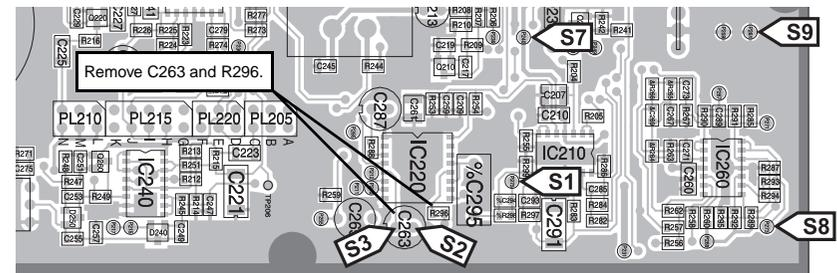

Figure 2 T800 Transmitter Audio Processor - Top Side
- Remove C263 and R296 from the audio processor (shown in Figure 2), and clear the holes of solder.
- Connect the wires from the T800-30-0000 PCB to the audio processor as follows (refer to Figure 2 and the Test Points & Options Connections drawing in the relevant service manual):